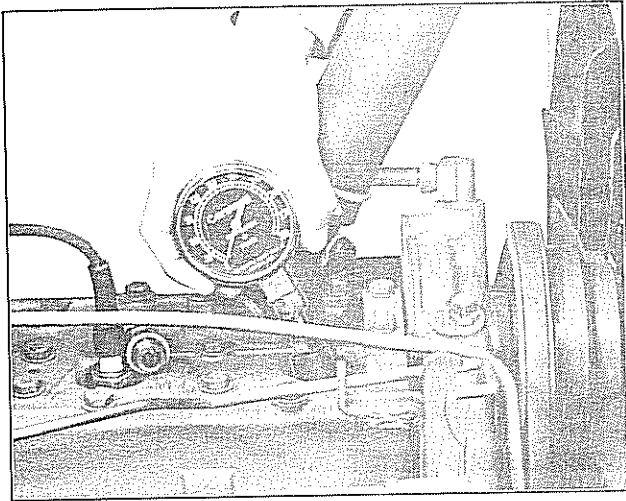

Figure 4. Compression Test
d. With all plugs removed, install compression gauge in front spark plug port. With choke and throttle fully open, operate starting motor until maximum reading on gauge is obtained, see figure 4. Record gauge reading. Repeat this operation on each remaining cylinder.